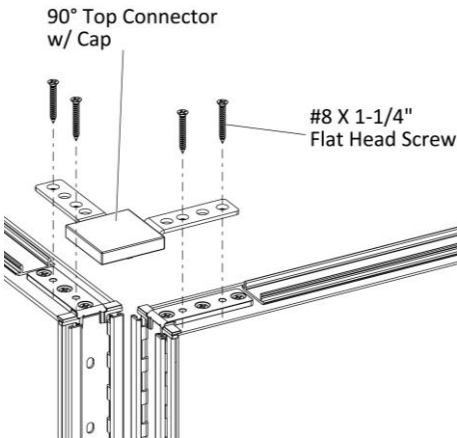

Figure 2
4. Drive four #8 X 1-1/4" Flat Head Screws through the holes in the 90-degree top connector into the panels, (Figure 2).